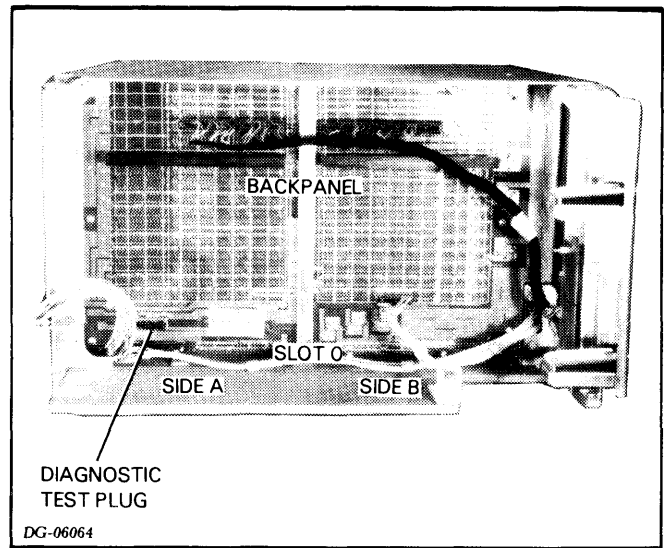

Figure 4.3 DIAGNOSTIC TEST PLUG
- c. Make sure the diagnostic test plug is inserted with the RUN label up (see Figure 4.3). If it is not, remove the plug, turn it over, and reinsert it with the RUN side up.